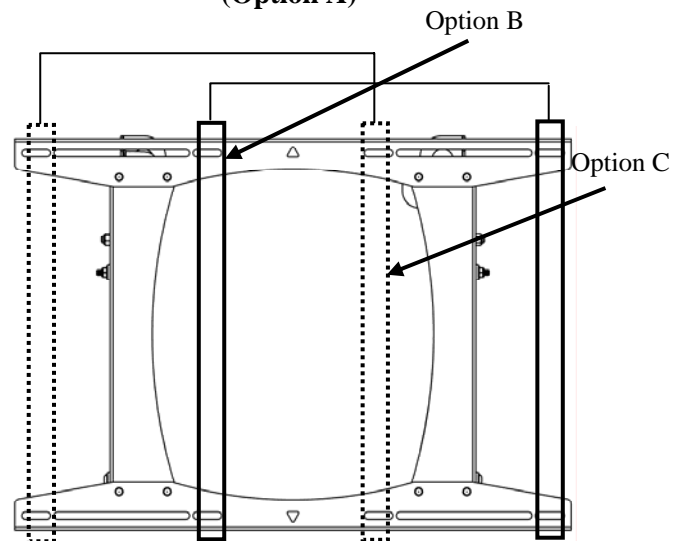

Figure 6. Mounting Holes – 16" Apart on Center (Options B and C)
- **Option B.** Install four 5/16" x 2 1/2" lag bolts and four 5/16" washers (two top and two bottom) into the mounting holes that are *right of center* on dual wood studs 16" apart as shown in Figure 6.
- **Option C.** Install four 5/16" x 2 1/2" lag bolts and four 5/16" washers (two top and two bottom) into the mounting holes that are *left of center* on dual wood studs 16" apart dual wood studs 16" apart on center as shown in Figure 6.